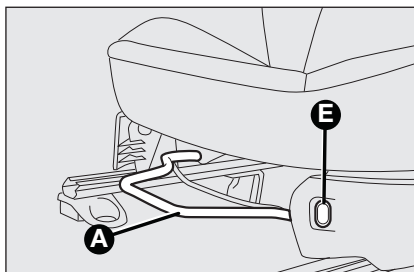

fig. 17
Horizontal adjustment fig. 17
Seat heating, fig. 17 (where provided)
ATTENTION Using lever **D** before locking the seat in its original position causes the original seat position to be lost. In this case, adjust the seat position by means of the reach adjustment **fig. 17**.
To return the seat to its initial position, slide the seat back and press on the backrest (movement ④) operate lever **D** (movement ⑤) and raise the backrest (movement ⑥) until it clicks home. Adjust reach using lever **A**-**fig. 17**.